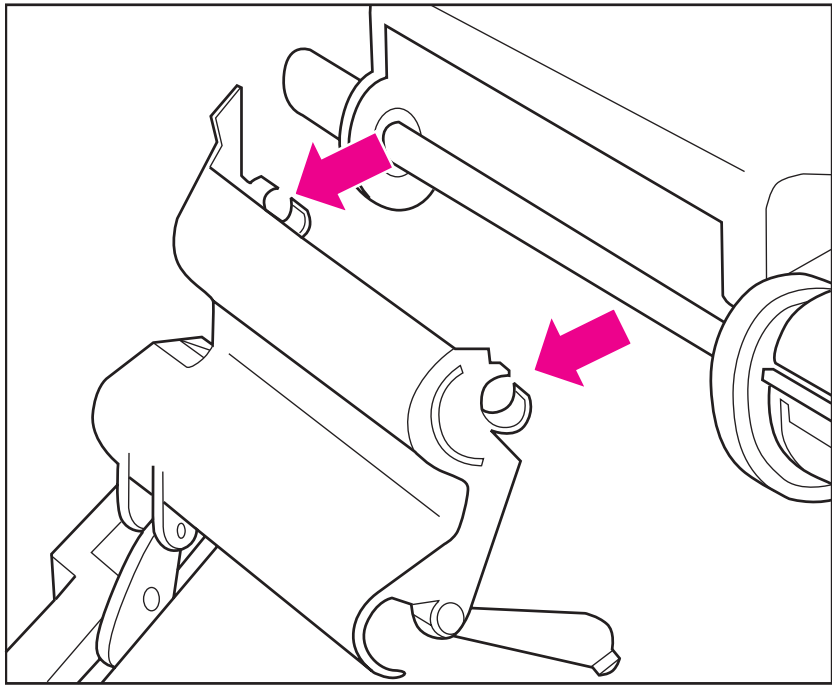

Figure 6-13 Detail of the Tray 1 Sensor Arm Cover
4. Firmly pull both sides of the Tray 1 Sensor Arm Cover toward you until it releases from the shaft. See Figure 6-13, “Detail of the Tray 1 Sensor Arm Cover,” on page 6-17.